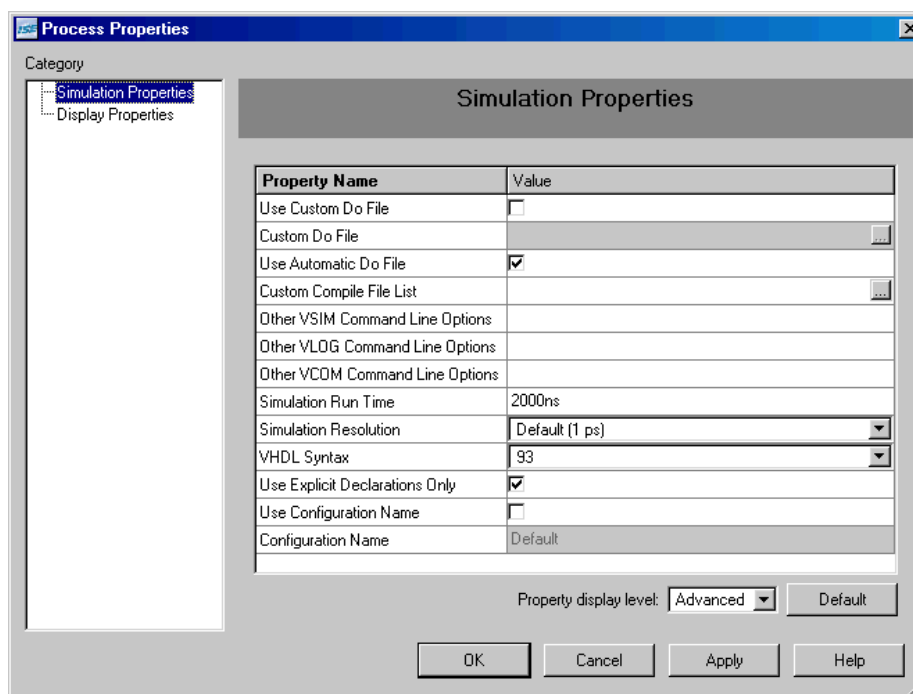

Figure 4-1: Behavioral Simulation Process Properties
5. In the Process Properties dialog box, (Figure 4-1) set the Property display level to **Advanced**. This global setting enables you to now see all available properties.